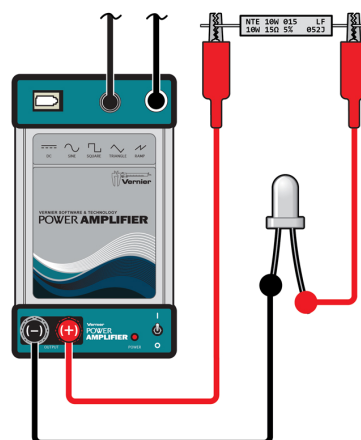

Figure 1
1. Connect the Vernier Power Amplifier in series with a power resistor and a red LED as shown in Figure 1. Connect the longer pin on the LED to the wire lead from the red terminal.